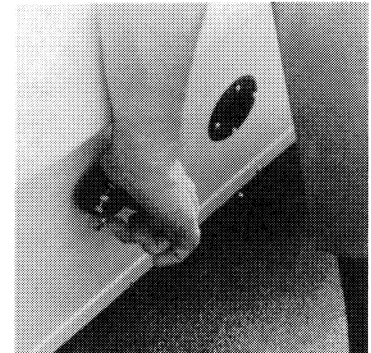

Figure 3
**Forward-Reverse Control** - The forward-reverse shift lever is located below and to the right of the driver's right knee on the seat support panel (See Figure 3). The lever has three (3) distinct positions: F (forward), N (neutral), and R (reverse). Rotate the lever toward the driver (F) to run the car in forward and toward the passenger (R) to run the car in reverse. The car operates at half speed in reverse.